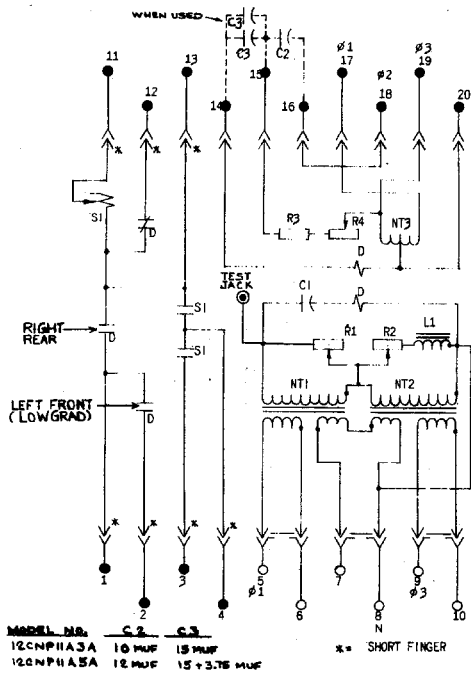

Fig. 9 (0148A3986-4) Internal Connections (Front View) for the CNP11A Relay
5. Check the location of the contact brushes on the cradle and case blocks against the internal connection diagram for the relay (see Fig. 9). Be sure that the shorting bars are in the proper locations on the case blocks, and that the long and short brushes on the cradle block agree with the internal connection diagram. Fig. 13 shows a sectional view of the case and cradle blocks with the connection plug in place. Note that there is an auxiliary brush in each position on the case block. This brush should be formed high enough so that when the connecting plug is inserted it engages the auxiliary brush before striking the main brush. This is especially important in current circuits and other circuits with shorting bars since an improper adjustment of the auxiliary brush could result in a CT secondary circuit being momentarily open circuited.